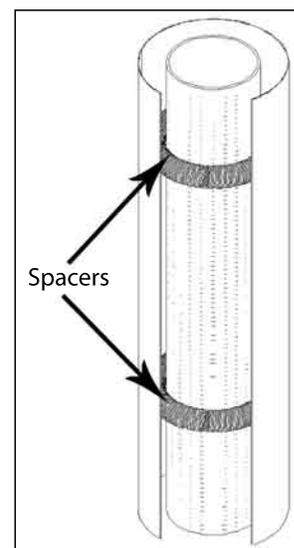

Figure 18: Spacers on Flex Pipe.
Install two (2) spacers around the flex pipe (see Figure 18). Slide the horizontal section of pipe over the flexible liner and install through the wall thimble, ensure that this portion of pipe slides onto the vent termination cap. Slide the inside finished collar over the horizontal section of pipe and secure to wall using the screws provided. Slide the 90° elbow over the flex pipe. Stretch the flex liner to a length long enough to ensure the flex liner can be easily connected to the flue outlet of the appliance. Install the remaining spacers over the flexible liner and install the vertical section of pipe. **(DO NOT SLIP THESE SECTIONS OF PIPE TOGETHER, YOU WILL REQUIRE SOME MOVEMENT IN THESE PIPE SECTIONS IN ORDER TO SECURE THE FLEX PIPE TO THE FLUE OUTLET ON THE APPLIANCE.)**